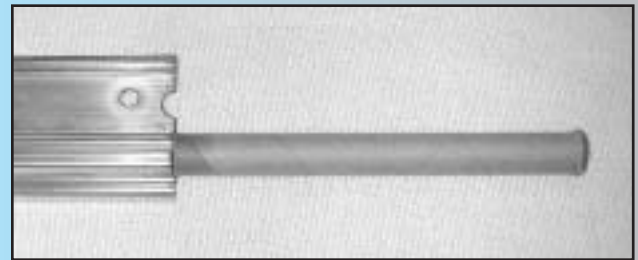

Fig. 1-2
- (3-piece only) Select “first” rail section. (It has protective cardboard sleeve over end of screw.) Fig. 1-2.